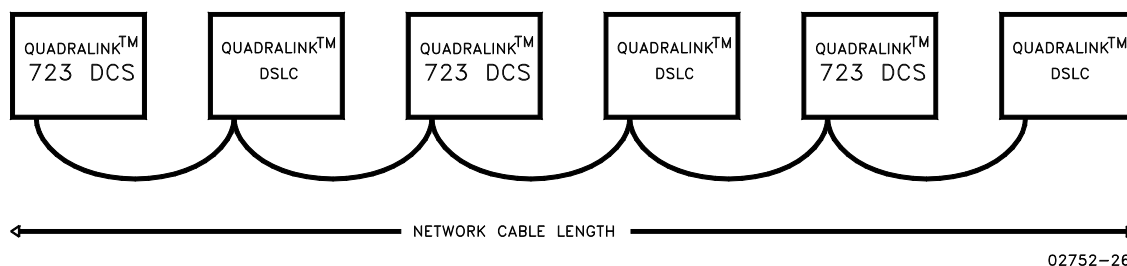
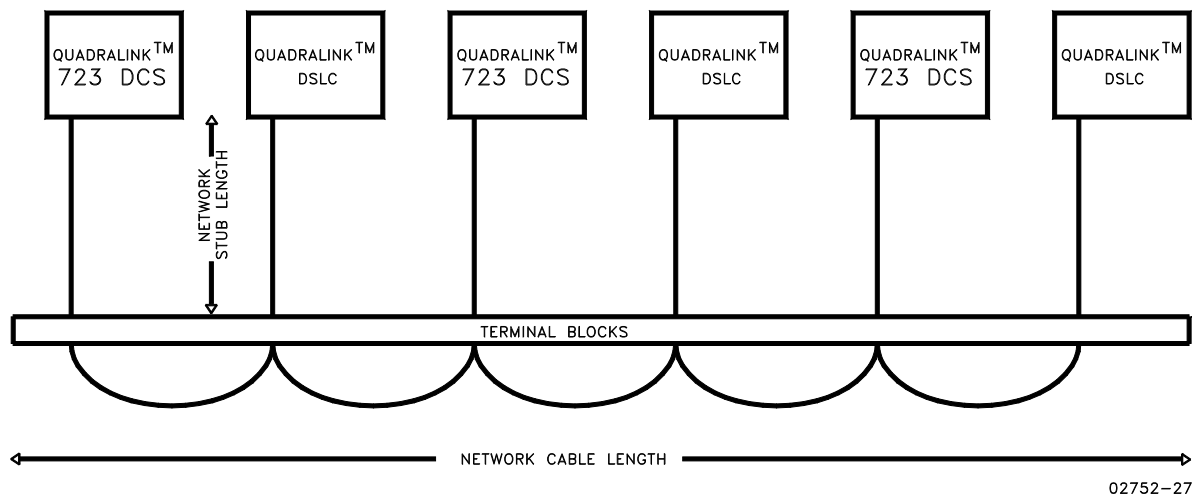

Figure 6-1. Direct Wired Network
Figure 6-2. Network Wired Via Stubs
The DSLC communicates with the 723 through shielded twisted pair wiring. The specifications for the system require that listed level V type cable be used. For systems where more than one 723/DSLC pair are installed, the network may be wired directly from unit to unit, as shown in Figure 6-1, or each unit may be connected to the network via stubs as in Figure 6-2. The network must be terminated at both ends; each end is terminated by placing a jumper between terminals 24 & 25 (723), and/or 41 & 42 (DSLC). There is no polarity associated with the network wiring.